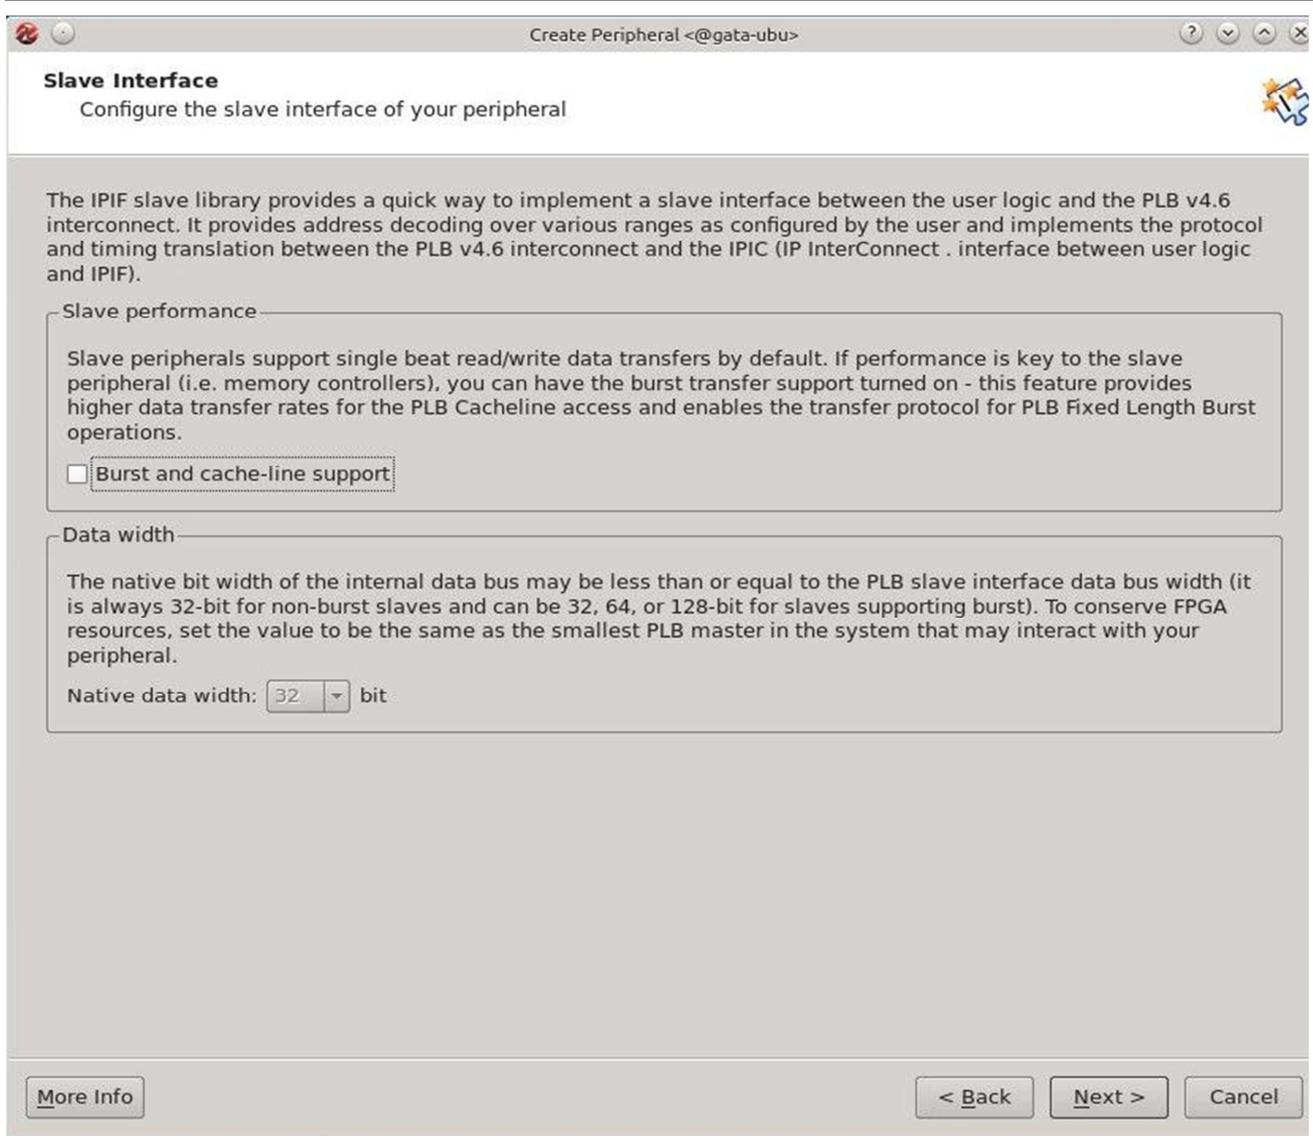

Figure 8: Create and Import Peripheral Wizard (Step 7)
Step 7: The following page of the wizard is shown in **Figure 8**. In this window you have the option to add cache support for your device as well as changing the data bus width. You do not need to do any changes in this screen. Press “**Next**” to continue.